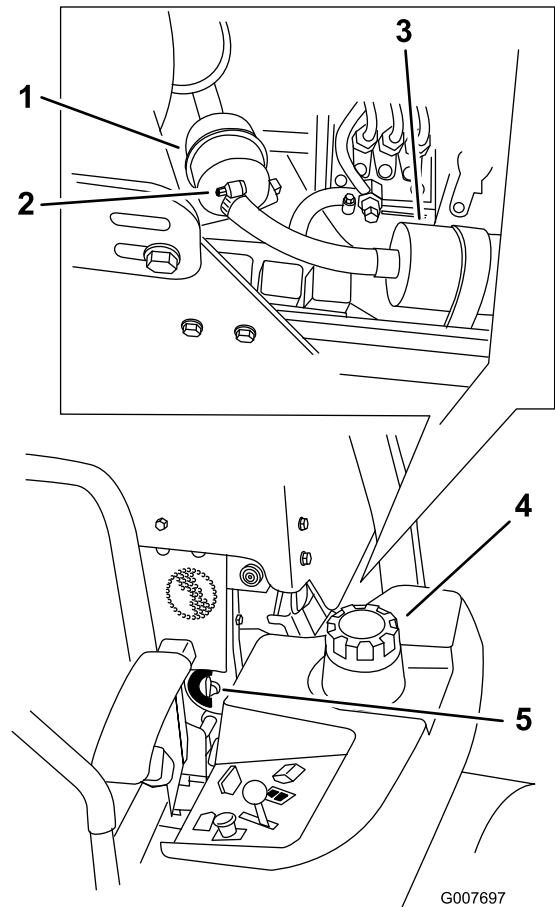

Figure 52
4. Close the fuel shut-off valve (Figure 52).
5. Loosen the 2 hose clamps and disconnect the fuel lines from the fuel filter (Figure 52).
6. Install a new filter. Connect the fuel lines to the fuel filter and install the hose clamps (Figure 52).